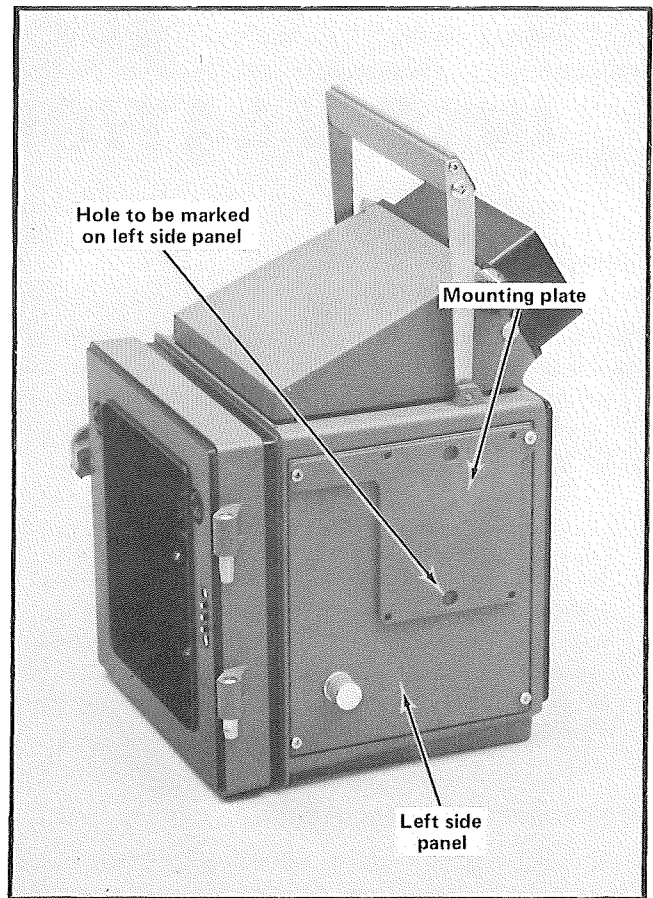

Fig. 2-3. Correct placement of Writing Speed Enhancer control box mounting plate on the left side panel of the camera.
7. Place the Writing Speed Enhancer mounting plate on the camera side panel in the manner shown in Fig. 2-3.
7. Re-install the mounting plate on the back of the control box. Use the four flat-head screws removed in step 5. See Fig. 2-3.